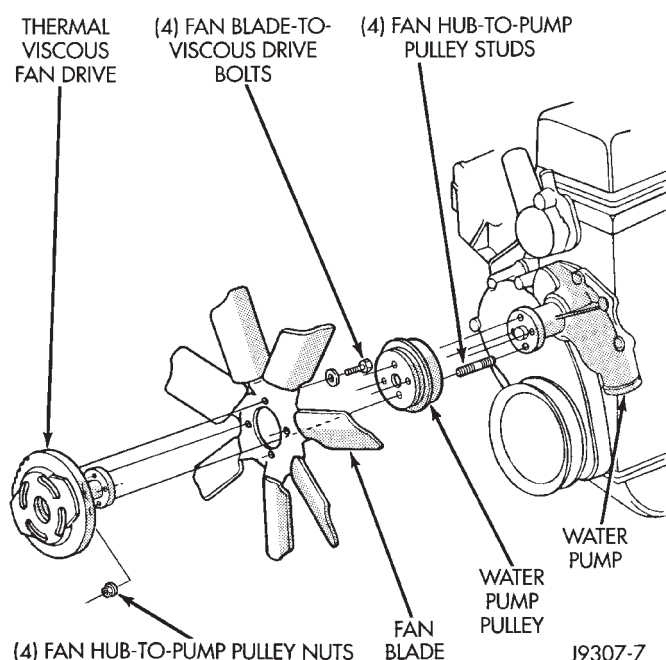

Fig. 28 Fan Mount
(1) Loosen but do not remove at this time, the four fan hub mounting nuts (Fig. 28).
(2) Remove accessory drive belt. Refer to Belt Service in the Engine Accessory Drive Belt section of this group.
(3) Some models with certain engines may require the removal of the fan shroud to remove the viscous fan drive. The fan shroud and fan blade/viscous fan drive should be removed from the vehicle as one assembly.
(4) Remove four fan hub mounting nuts (Fig. 28) and remove fan/viscous fan drive assembly from vehicle.
(5) After removing fan blade/viscous fan drive assembly, **do not** place thermal viscous fan drive in horizontal position. If stored horizontally, silicone fluid in viscous fan drive could drain into its bearing assembly and contaminate lubricant.